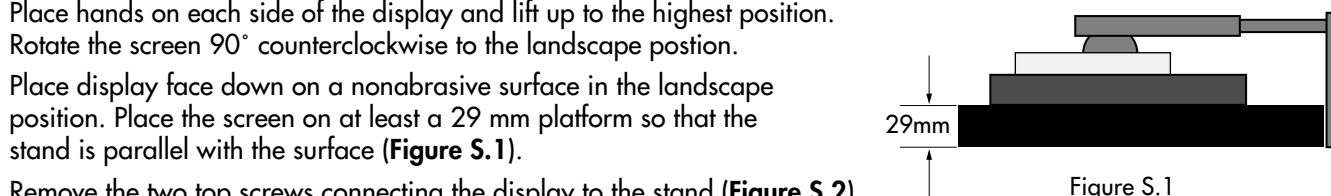

Figure S.1
3. Place display face down on a nonabrasive surface in the landscape position. Place the screen on at least a 29 mm platform so that the stand is parallel with the surface (**Figure S.1**).